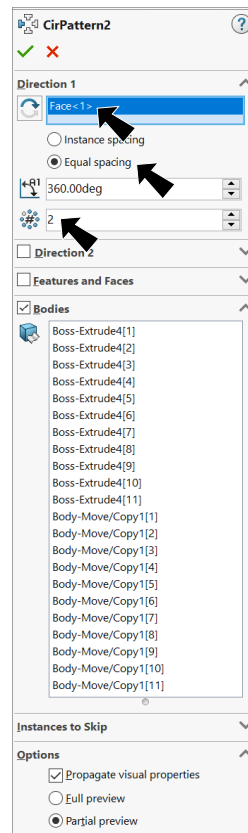

Fig. 67
Step 2. In the Circular Pattern Property Manager set: uncheck Features and Faces, **Fig. 67** under Bodies